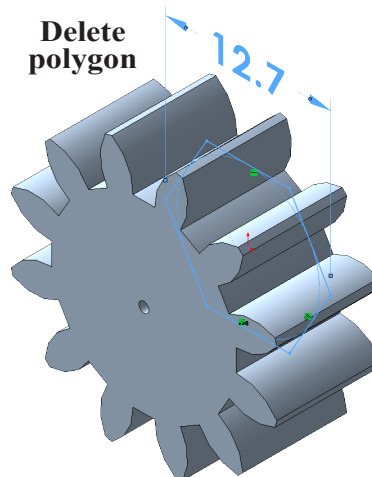
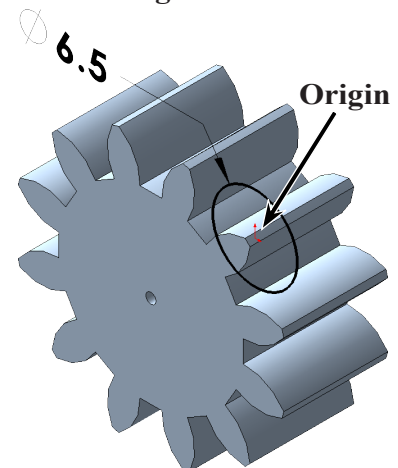

Fig. 11
Fig. 12
Step 2. **Delete the polygon.** Use **Ctrl-A** and delete key, **Fig. 11**.
Step 3. Click **Circle** (S) on the Sketch toolbar.
Step 4. Sketch **circle** at the **Origin** , **Fig. 12**.
Step 5. Click **Smart Dimension** (S) on the Sketch toolbar.